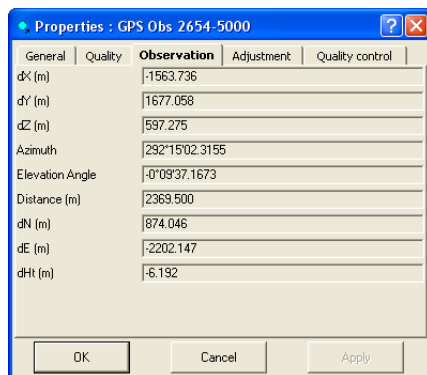

Figure 5-92. Observation Properties
3. View *Observation* tab fields which contain fields for viewing the vector solution type (dX,dY,dZ, Azimuth, Elevation Angle, Distance, dN,dE,dHt) (Figure 5-92).